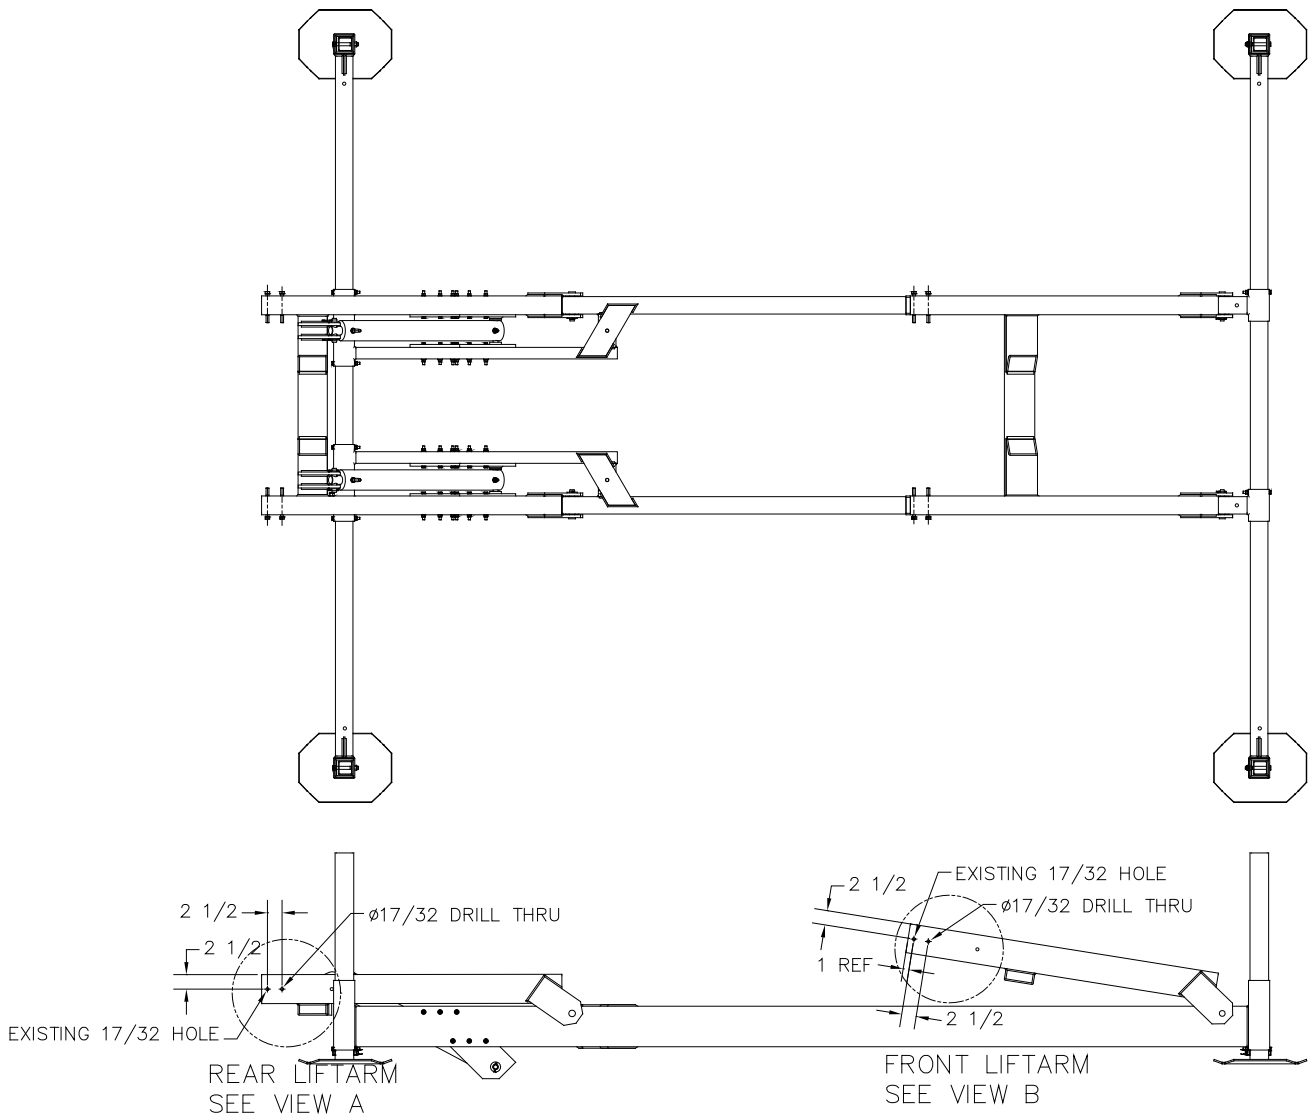

Figure 2-1A.
1. **Refer to Figure 2-1A & 2-2A.** Remove the extension tubes on the 48" lift. These tubes will not be used. Layout the holes shown in figure 2-1A & 2-2A. Drill 17/32" holes through front & rear liftarms.